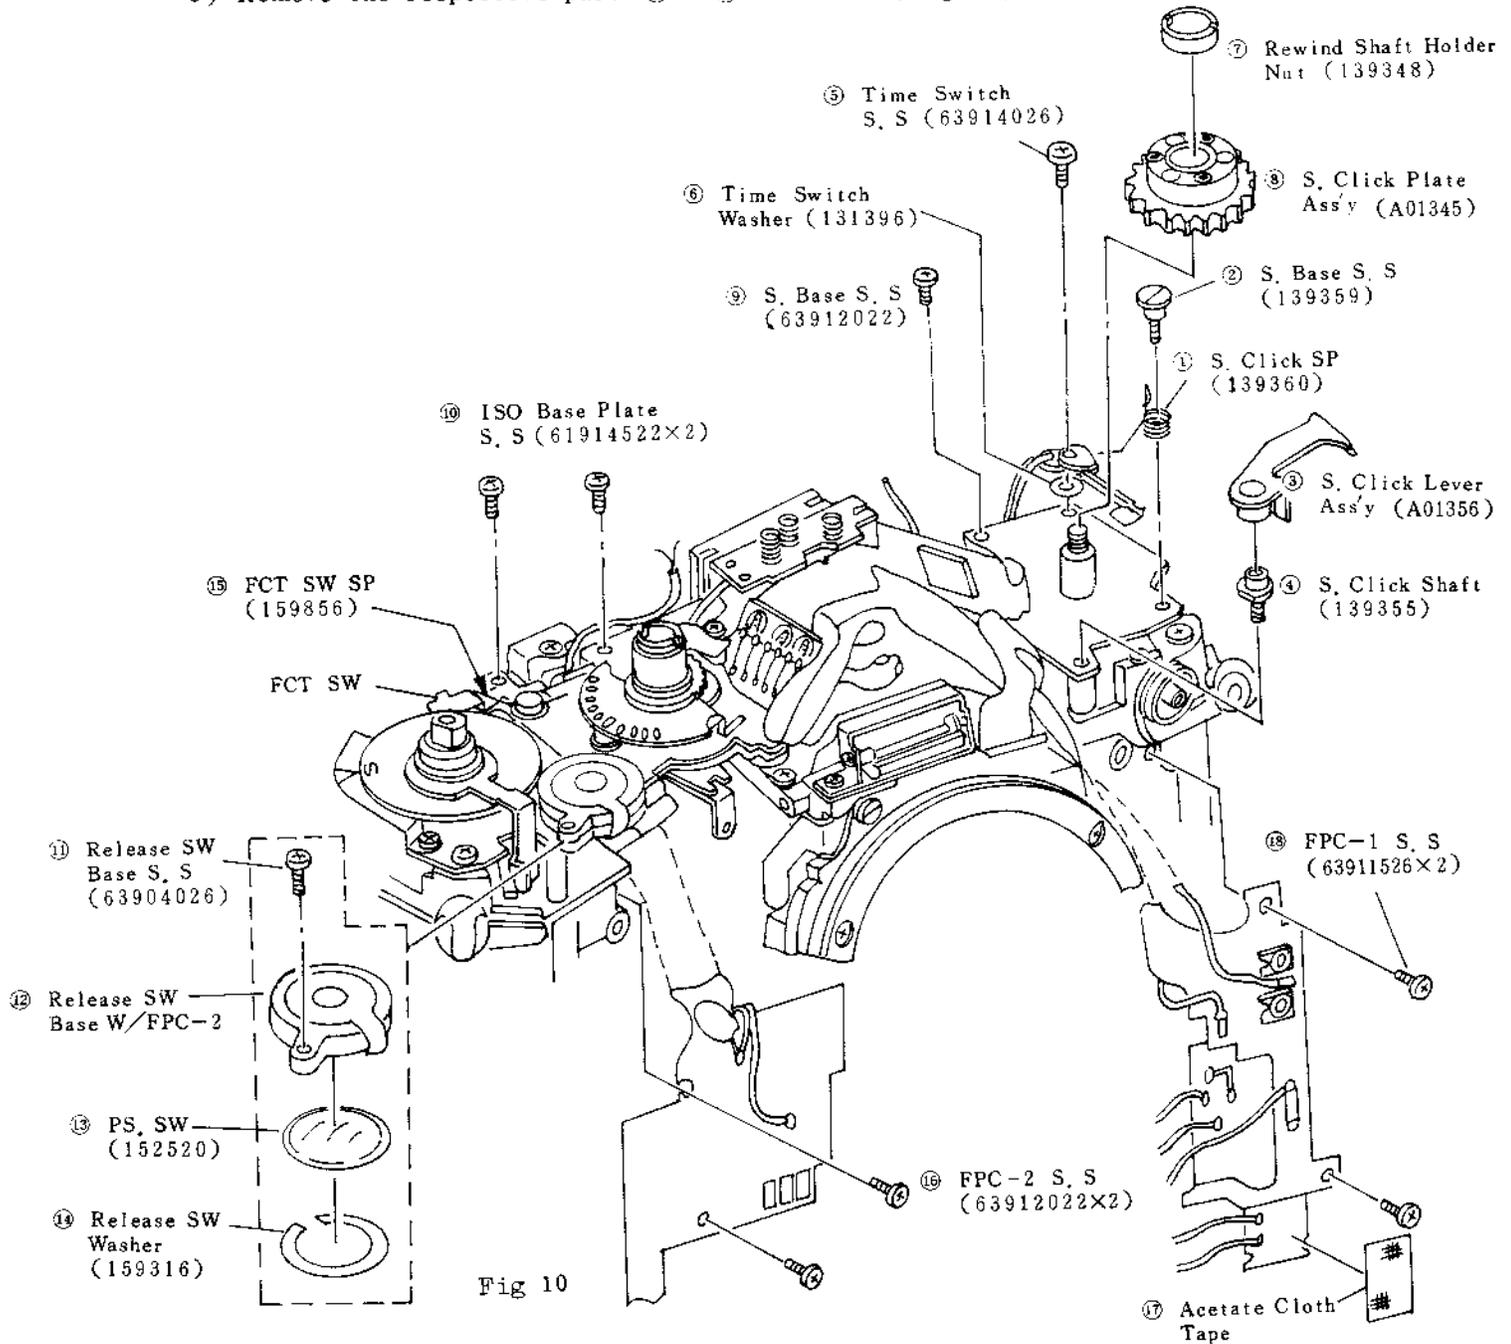

Fig 10
e) Remove the respective parts ① ~ ⑱ Shown in (Fig 10) in numerical order.
(Fig 10)